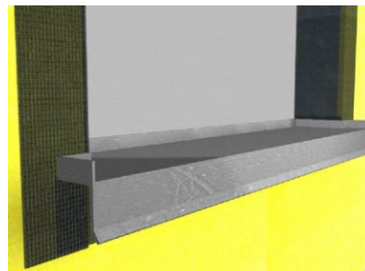

Fig. 6
- 6) Install diagonal “butterflies” consisting of AquaFlash Liquid and AquaFlash Mesh at each sill/jamb corner – Figure 6.